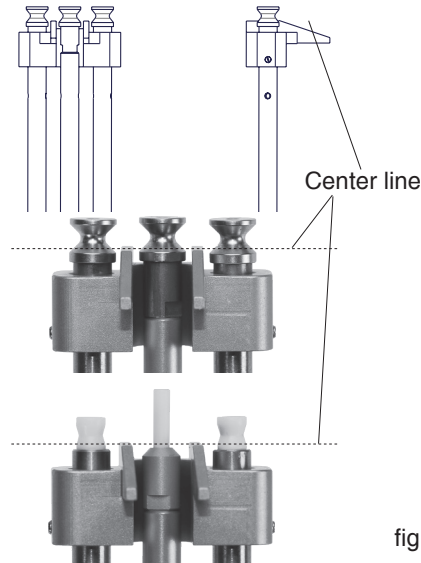

fig. 5.2k
- Push the filament guide upward far enough to ensure that the rollers do not rub against the filament guide and that the process material can slide unhindered into the roller grooves (fig. 5.2k center line).